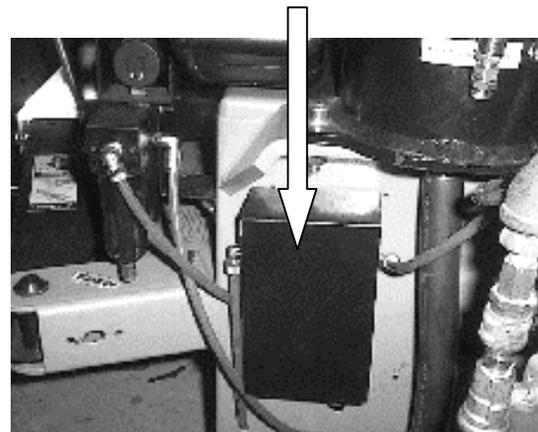

Figure 15
7. Pneumatic pressure limiter: no adjustments or replacement parts. If this unit is faulty, replace as a complete assembly (*Figure 15*).